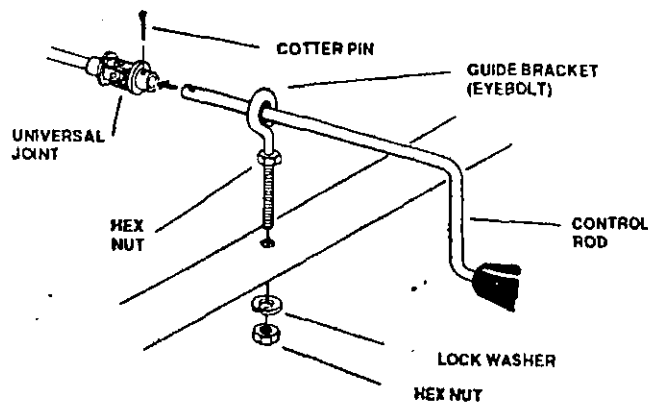

Fig. 1A
3. CHUTE ROTATION CONTROL ROD (See Figs. 1A & 1B).
- c). Thread one (1) 5/16-18 nut onto guide bracket (eyebolt) to bottom of threads (Do not tighten).